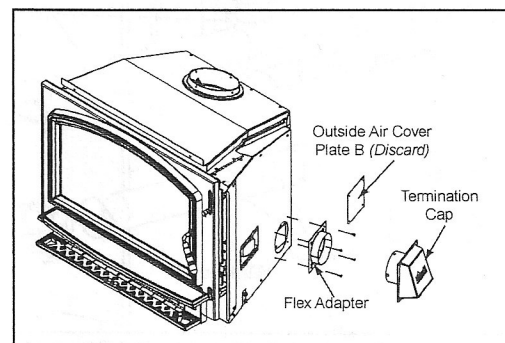

Figure 5 - Voyageur Model
10. After completing step 5, snap the cover plates to the 2 side panels to block room air. Figure 5.